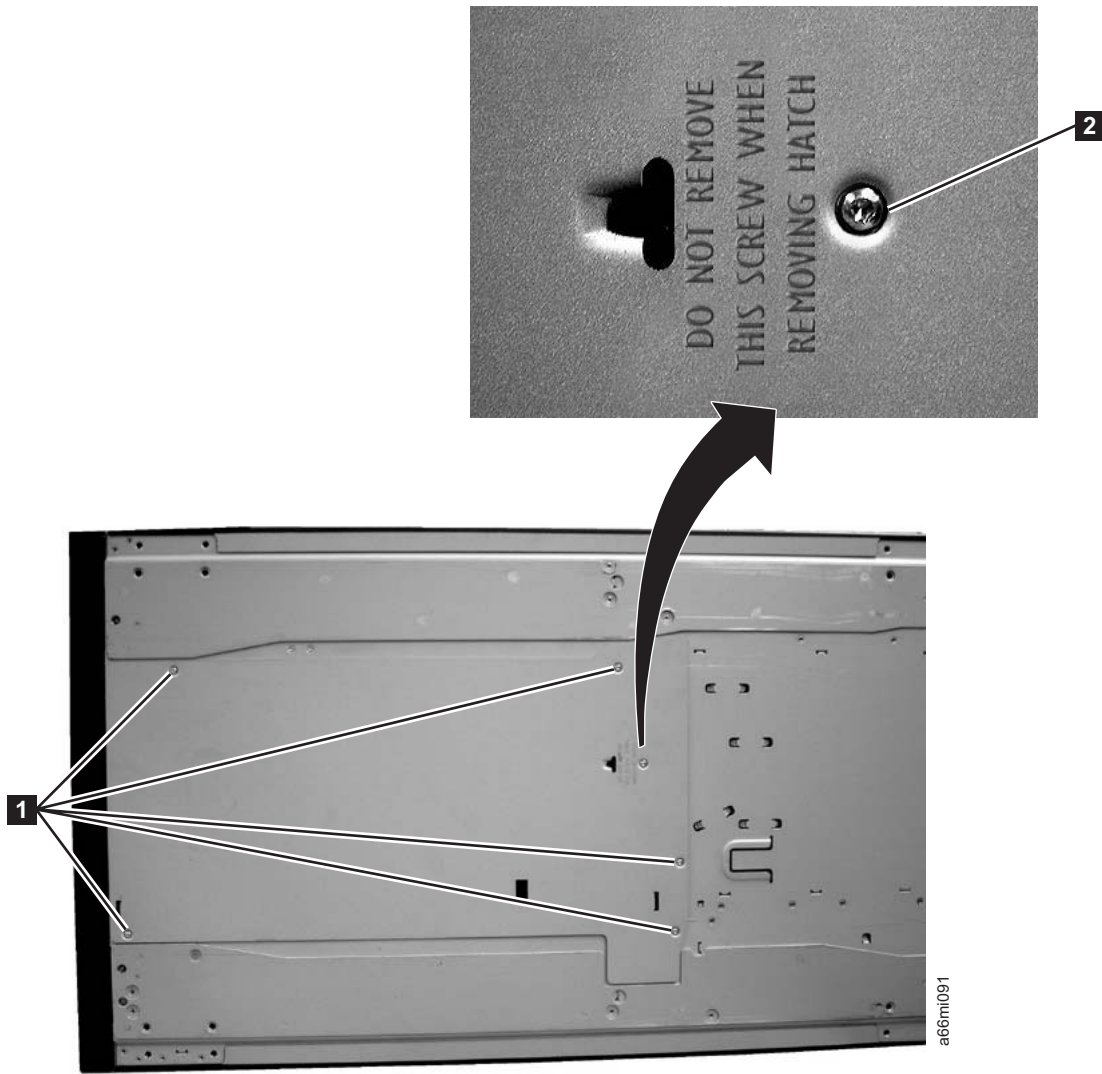

Figure 3-7. Bottom cover of the 5U Control Module
2. Turn the 5U Control Module on it's side and remove the 5 - T10 Torx bottom cover screws (1 in Figure 3-7 on page 3-8).
Important: DO NOT loosen or remove the screw holding the home sensor (2 in Figure 3-7 on page 3-8). This screw has the same T10 Torx head as the cover screws, but it is longer and has a coarse thread for screwing into the plastic home sensor.